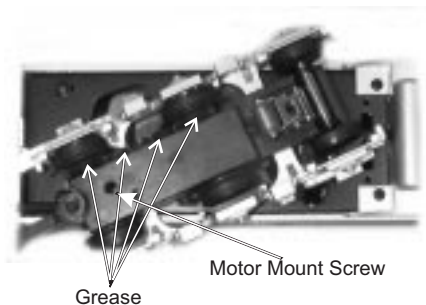

Figure 8: Greasing The Power Trucks
Next, remove the truck blocks from the chassis by unscrewing the large Phillips motor mount screw (8) on the bottom of each truck block (See Fig. 8).